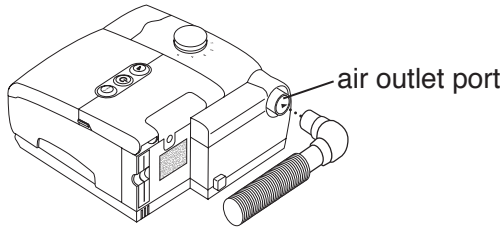

FIGURE 9: CONNECTING THE PATIENT CIRCUIT
- Attach the swivel, with the flexible tubing attached, to the humidifier's air outlet port. Or, attach the tubing directly to the air outlet port. See Figure 9.